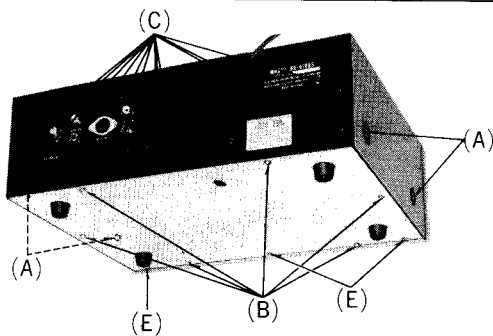
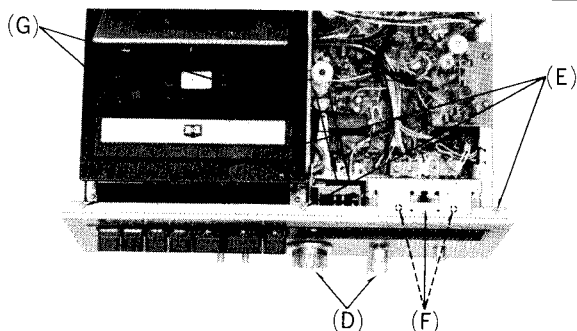

Fig. 2
Fig. 3
1. Remove 4 top cover holding screws (A) and remove the top cover (See fig. 2.)
2. Remove 6 bottom board holding screws (B) and remove the bottom plate.
1. Remove 12 back board holding screws (C) and remove the back board (See fig. 3.)
1. Remove 2 knobs (D) shown in figs. 3 and 6 front panel holding screw (E) shown in figs. 2 and 3.
2. Remove 3 level meter holding screws (F) and remove the front panel (See fig. 3).
1. Remove 2 screws (G) and remove the cassette case assembly (See fig. 3).